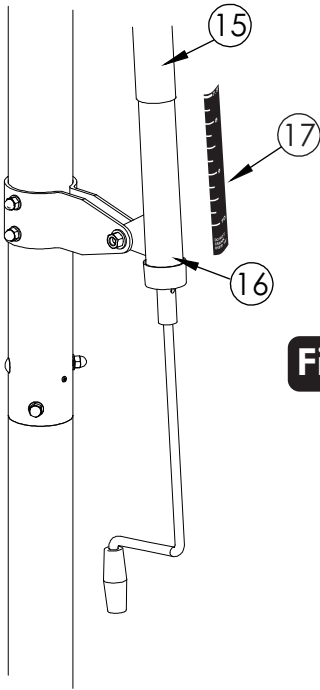

Figure 14
- 33.** Adjust unit to 7-1/2 feet. Use a tape measure to measure from the top of the rim to the playing surface. Stick height decal (#17) to back of actuator (#16) with the "7.5" mark aligned with bottom of actuator sleeve (#15). See **Figure 14**.